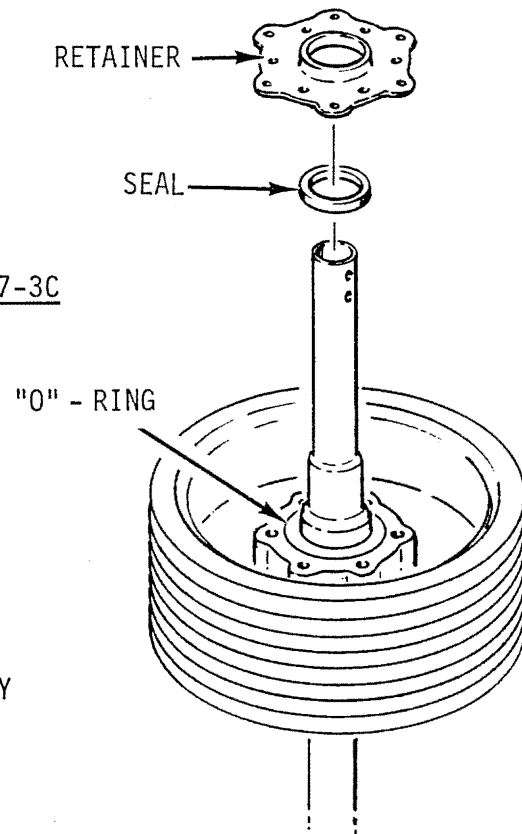
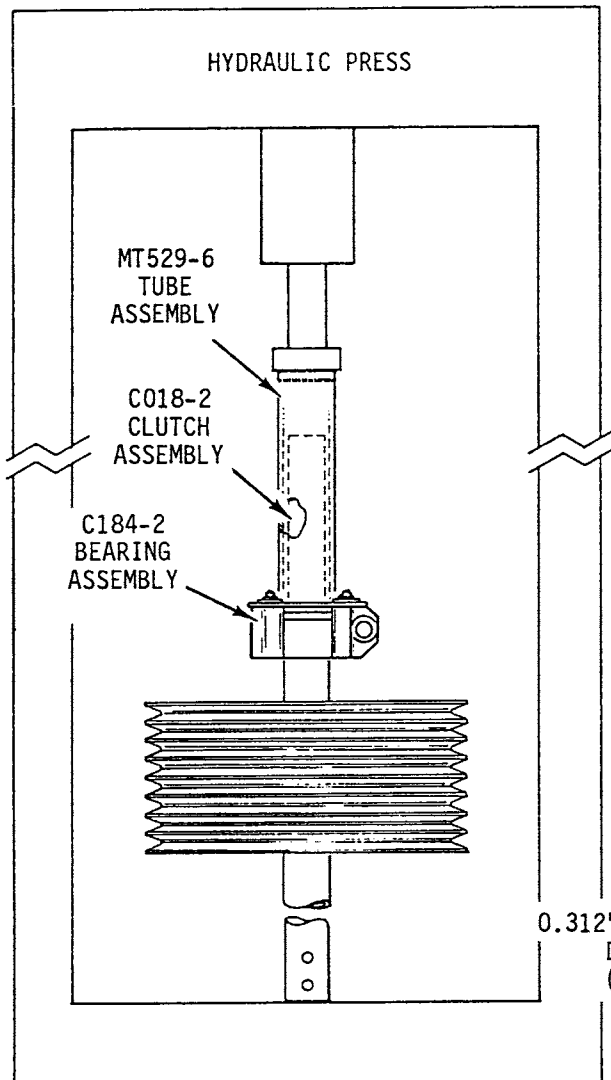

FIGURE 7-3D
FIGURE 7-3G
- a. Using a hydraulic press: Support clutch assembly at forward end of clutch shaft. Place MT529-6 tube assembly on clutch shaft per Figure 7-3E. Center tube assembly over inner race of bearing assembly. Press bearing assembly until MT529-6 tube assembly bottoms on end of clutch shaft (bearing assembly should be at dimension shown in Figure 7-3D).
- b. Without hydraulic press: Use MT529-6 tube assembly (included in MT528-1 tool set) and MT528-2 tool set as shown in Figure 7-3G. Center tube assembly over inner race of C184 bearing assembly. Tighten nut onto MT529-4 screw (coat nut face and screw with anti-seize) until MT529-6 tube assembly bottoms on end of clutch shaft (bearing assembly should be at dimension shown in Figure 7-3D).
12. With clutch assembly remaining vertical, fill housing with A257-4 lubricant until lubricant level is flush with top of bearing races per Figure 7-3D.